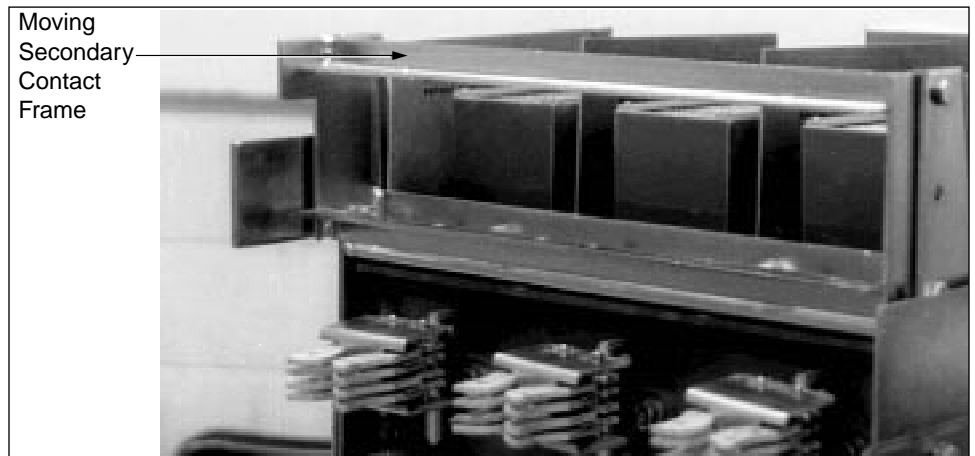

Figure 7: Secondary contact frame
Refer to Figure 7 to determine if the circuit breaker is already equipped with a moving secondary contact frame. If so equipped, proceed to the next section, "Mounting the Moving Secondary Contacts."
2. Mount the moving secondary contact frame with the supplied hardware as shown in Figure 7.